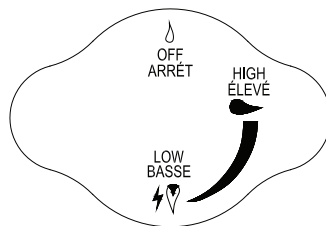

Figure 11
2. Make sure regulator/control knob is in the “OFF” position as shown (see Figure 11).
4. Visually check the burner flames to make sure your outdoor firepit is working properly (Figure 11).